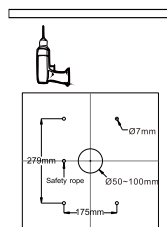

Figure 2
2. Use electric drill to set fixed holes through the ceiling(Figure 2).